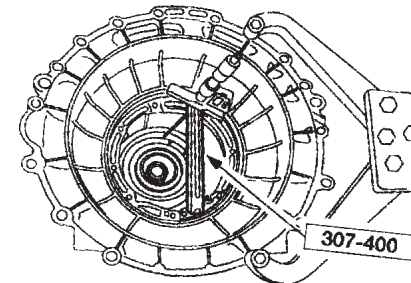

Figure 1
2. Measure the distance from the top of the gauge bar or equivalent to the center support ledge in the case at four places 90 degrees apart (See Figure 1).